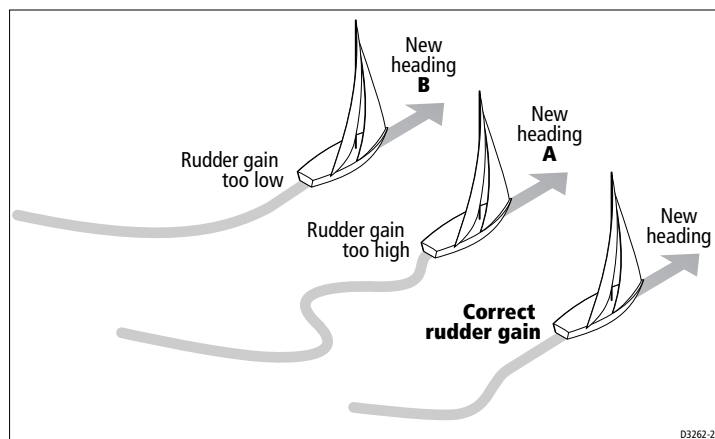

Figure 4-10:Rudder gain settings
- If the rudder gain setting is **too high**, the 40° course change will result in a distinct overshoot of more than 5° and there may be a distinct 'S' in the course (see **A** in *Figure 4-10*).
- If the rudder gain is **too low**, the boat's performance will be sluggish. It will take a long time to make the 40° turn and there will be no overshoot (see **B** in *Figure 4-10*).